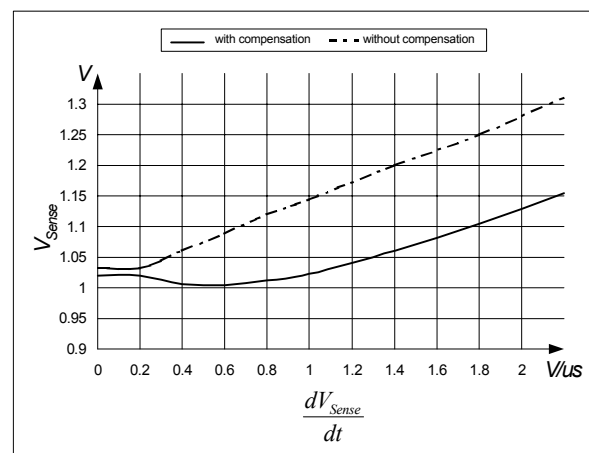

Figure 19 Overcurrent Shutdown
E.g.  $I_{peak} = 0.5A$  with  $R_{Sense} = 2$ . Without propagation delay compensation the current sense threshold is set to a static voltage level  $V_{csth} = 1V$ . A current ramp of  $dI/dt = 0.4A/\mu s$ , that means  $dV_{Sense}/dt = 0.8V/\mu s$ , and a propagation delay time of i.e.  $t_{Propagation Delay} = 180ns$  leads then to a  $I_{peak}$  overshoot of 12%. By means of propagation delay compensation the overshoot is only about 2% (see Figure 19).